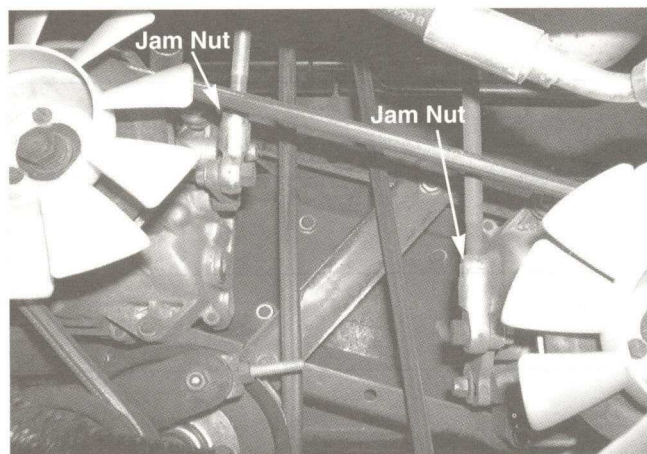

FIGURE 18.
28. Loosen all four hex jam nuts that maintain the alignaball positions on the hydrostatic control rods using two 9/16 wrenches. See figure 18.